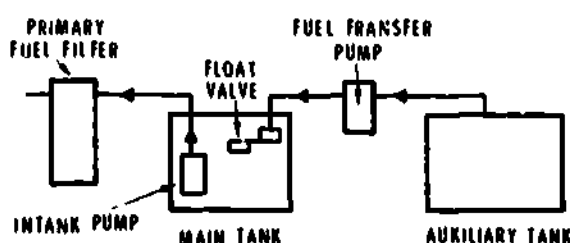

Fig 3-2. Dual fuel tanks (5-ton truck).
b. **Fuel tank.** The 2 1/2-ton truck and some of the 5-ton trucks have one fuel tank mounted on the frame side member of the truck. Fuel tanks for military compression-ignition-engine-powered vehicles are about the same as tanks for spark-ignition engines. They have a filter inlet and an outlet and are vented to the air cleaner. One difference is that tanks for compression-ignition engines have an opening for a fuel return line. This is because compression-ignition engines are always supplied with more fuel than they can use. The excess is sent back to the tank through a fuel return line. Some 5-ton trucks have two fuel tanks so they can store more fuel. The second or auxiliary tank is mounted on the right side of the truck and the main tank is on the left. An electric fuel transfer pump is located on a bracket in front of the auxiliary tank. It is used to pump fuel from the auxiliary tank to the main tank. The transfer pump switch is located on the instrument panel near the center. A float valve in the main tank can shut off incoming fuel from the transfer pump to prevent the tank from overflowing (fig 3-2).